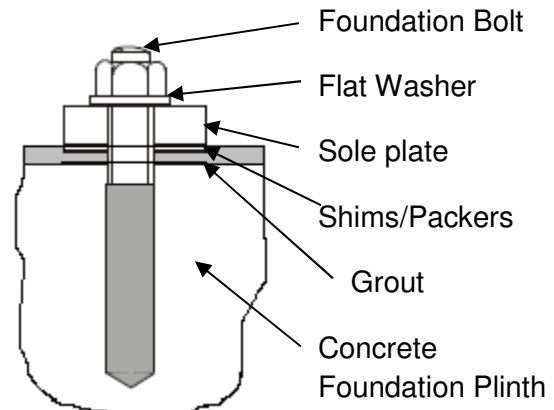

Fig 2
3. The foundation must be of adequate strength to support the complete weight of the pump, plus the weight of the liquid passing through it. A typical installation will have bolts, sized and located in accordance with the dimensions given on the Certified Pump Outline Drawing, if provided. **See Figure 2.**